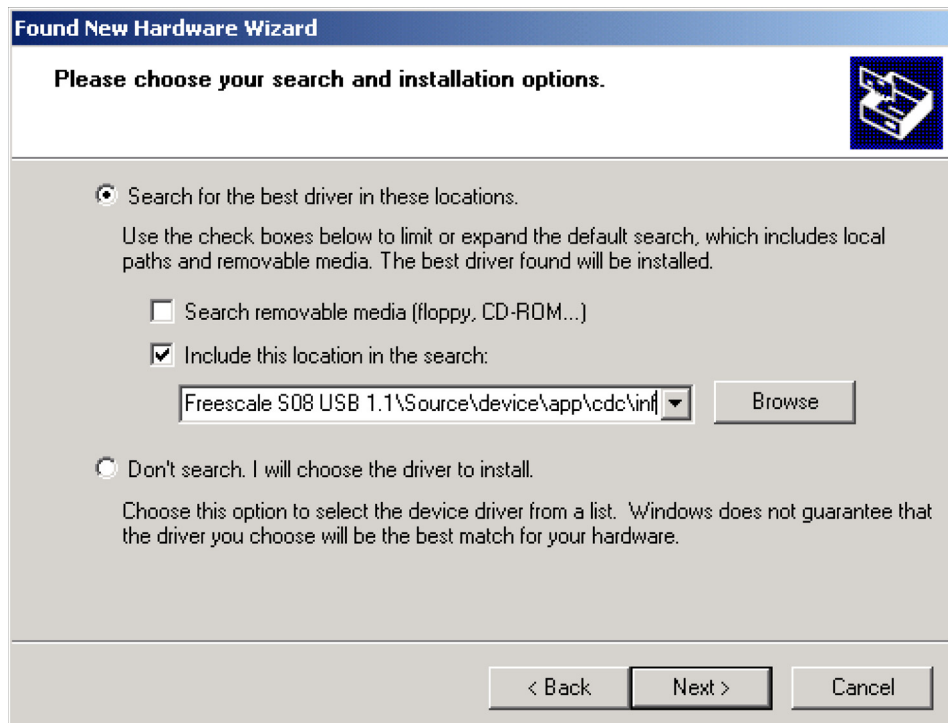

Figure 20-4. Search and Installation Option Window
2. Select **Install from a list or specific location (Advanced)** option and click **Next**. The Search and installation options window appears as shown in Figure 20-4.